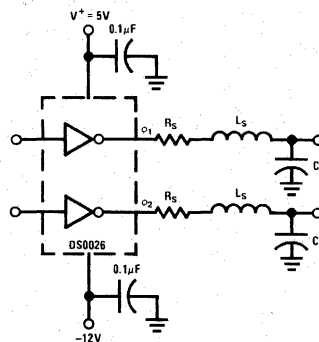

FIGURE 3. Use of Damping Resistor to Eliminate Clock Overshoot
**Overshoot:** The output waveform of a clock driver can, and often does, overshoot. It is particularly evident on faster drivers. The overshoot is due to the finite inductance of the clock lines. Since most MOS registers require that clock signals not exceed  $V_{SS}$ , some method must be found in large systems to eliminate overshoot. A straightforward approach is shown in Figure 3. In this instance,